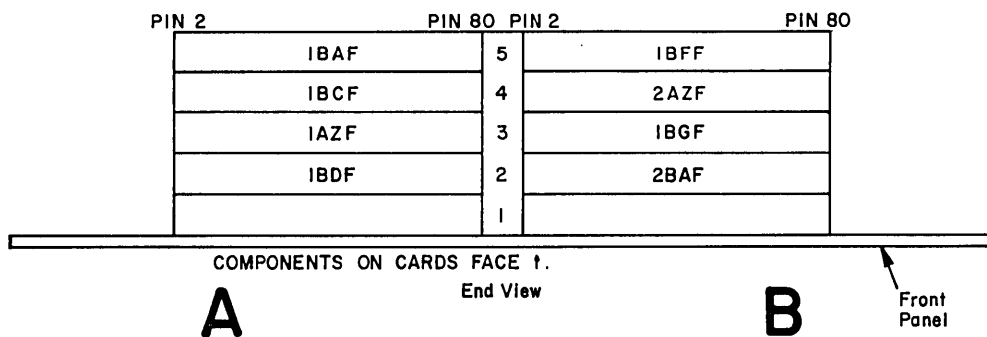

Figure 6-4. Printed Circuit Card Location
1. Insure logic card to be inserted is oriented with components facing away from front panel as per Figure 6-4.